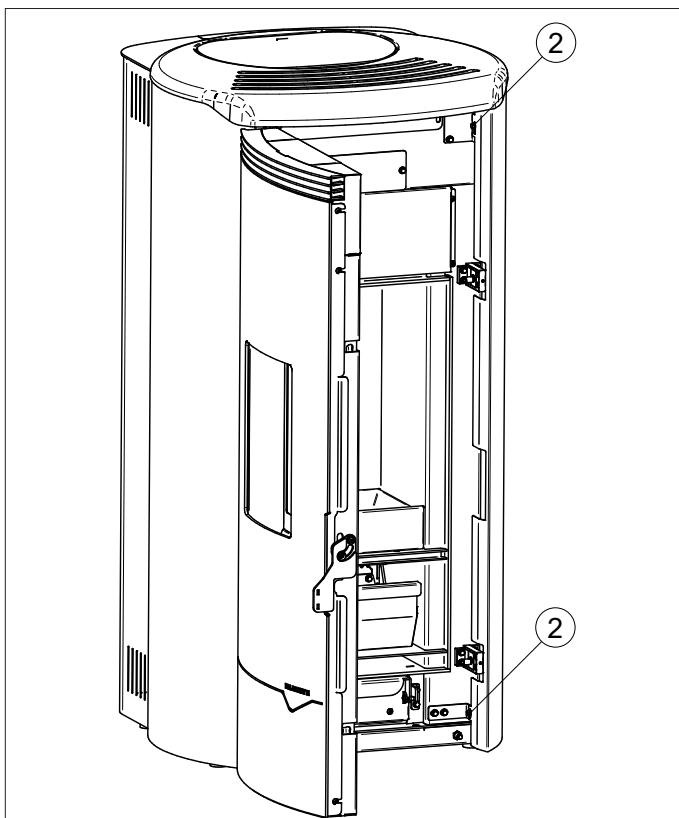

Fig. 6.3b
- Loosen the two front screws (2), loosen the four rear fixing screws of the right side (3) and remove it (Fig. 6.3b - 6.3c).